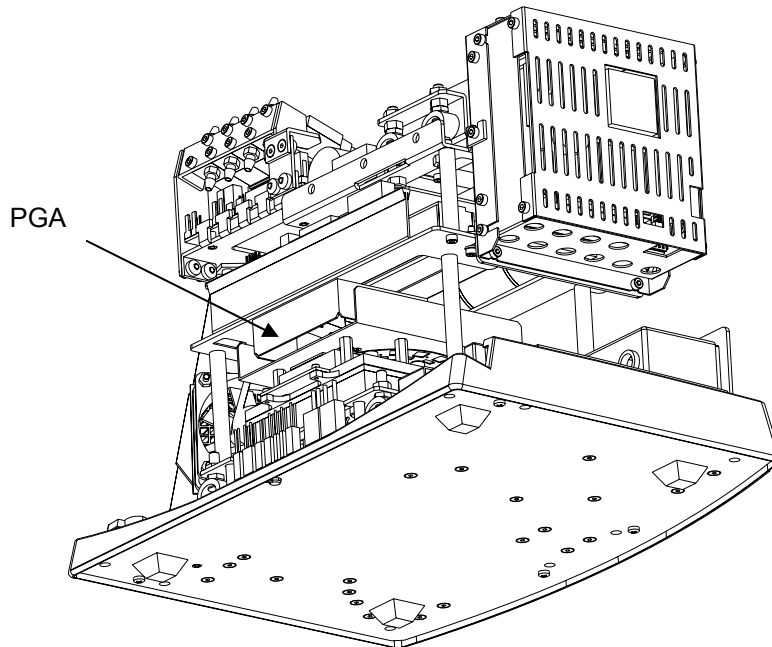

Figure 7.3-1 PGA location
2. Disconnect the power cord on the PGA, see figure 7.3-1, 6).